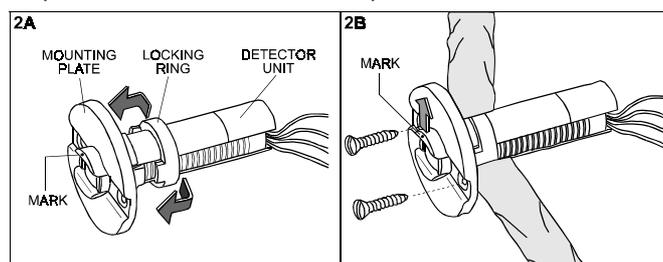

**Figure 1 - Installation with Collar, Models SPY 1, SPY 2**
the detector and adjust its position so that the front of the detector and the collar are aligned (Fig. 1).
5. Orient the detector unit so that the mark on the front faces up (Fig. 1).